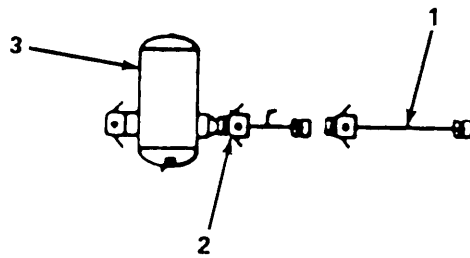

Figure 4-14. Water Detector Kit Adapter, Removal/Installation.
b. Replace. (figure 4-14)
(1) Removal.